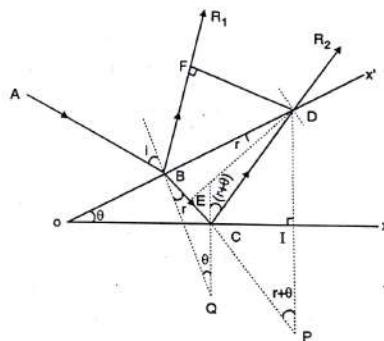

Fig. 1.7.1 : Interference in wedge shaped film
- Consider a film of non-uniform thickness as shown in Fig. 1.7.1. It is bound by two surfaces \$OX\$ and \$OX'\$ inclined at an angle \$\theta\$. The thickness of the film gradually increases from \$O\$ to \$X\$.